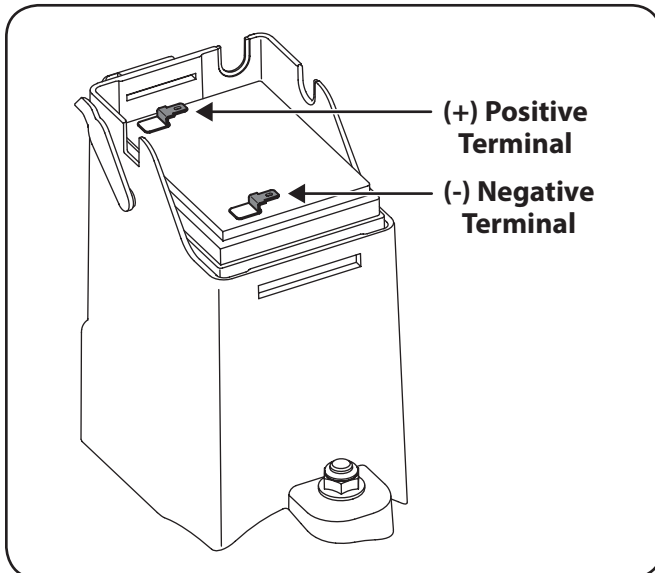

Figure 7-3
3. Replace with new battery. Connect the positive lead (red) to the positive side of the battery pack, then connect the negative lead (black) to the negative side. See Figure 7-3.